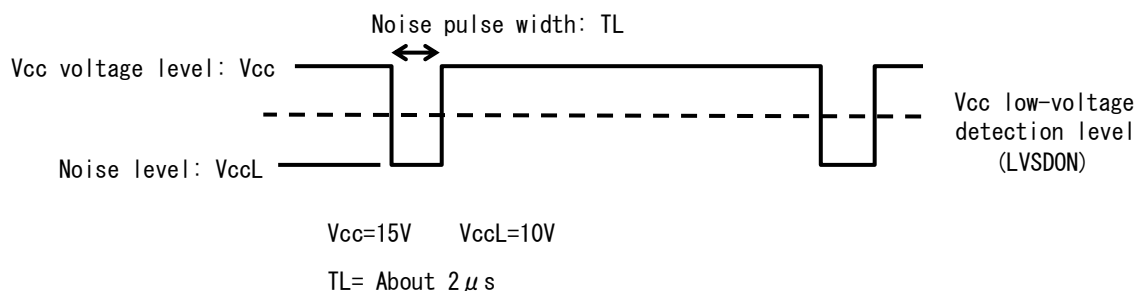

FIGURE 5.5.1 Example of Pulsed Noise on Vcc Line
- ① Mount a bypass capacitor C1 near the pin of the gate driver IC. Use a capacitor that has excellent frequency characteristics, such as a ceramic capacitor. As a guide, a capacitor of around 1 μ F is recommended.
- ② It is more effective to mount a surge suppression device, such as bypass capacitor C2 shown in Fig. 5.5.1, close to the connector of a motor control circuit board.